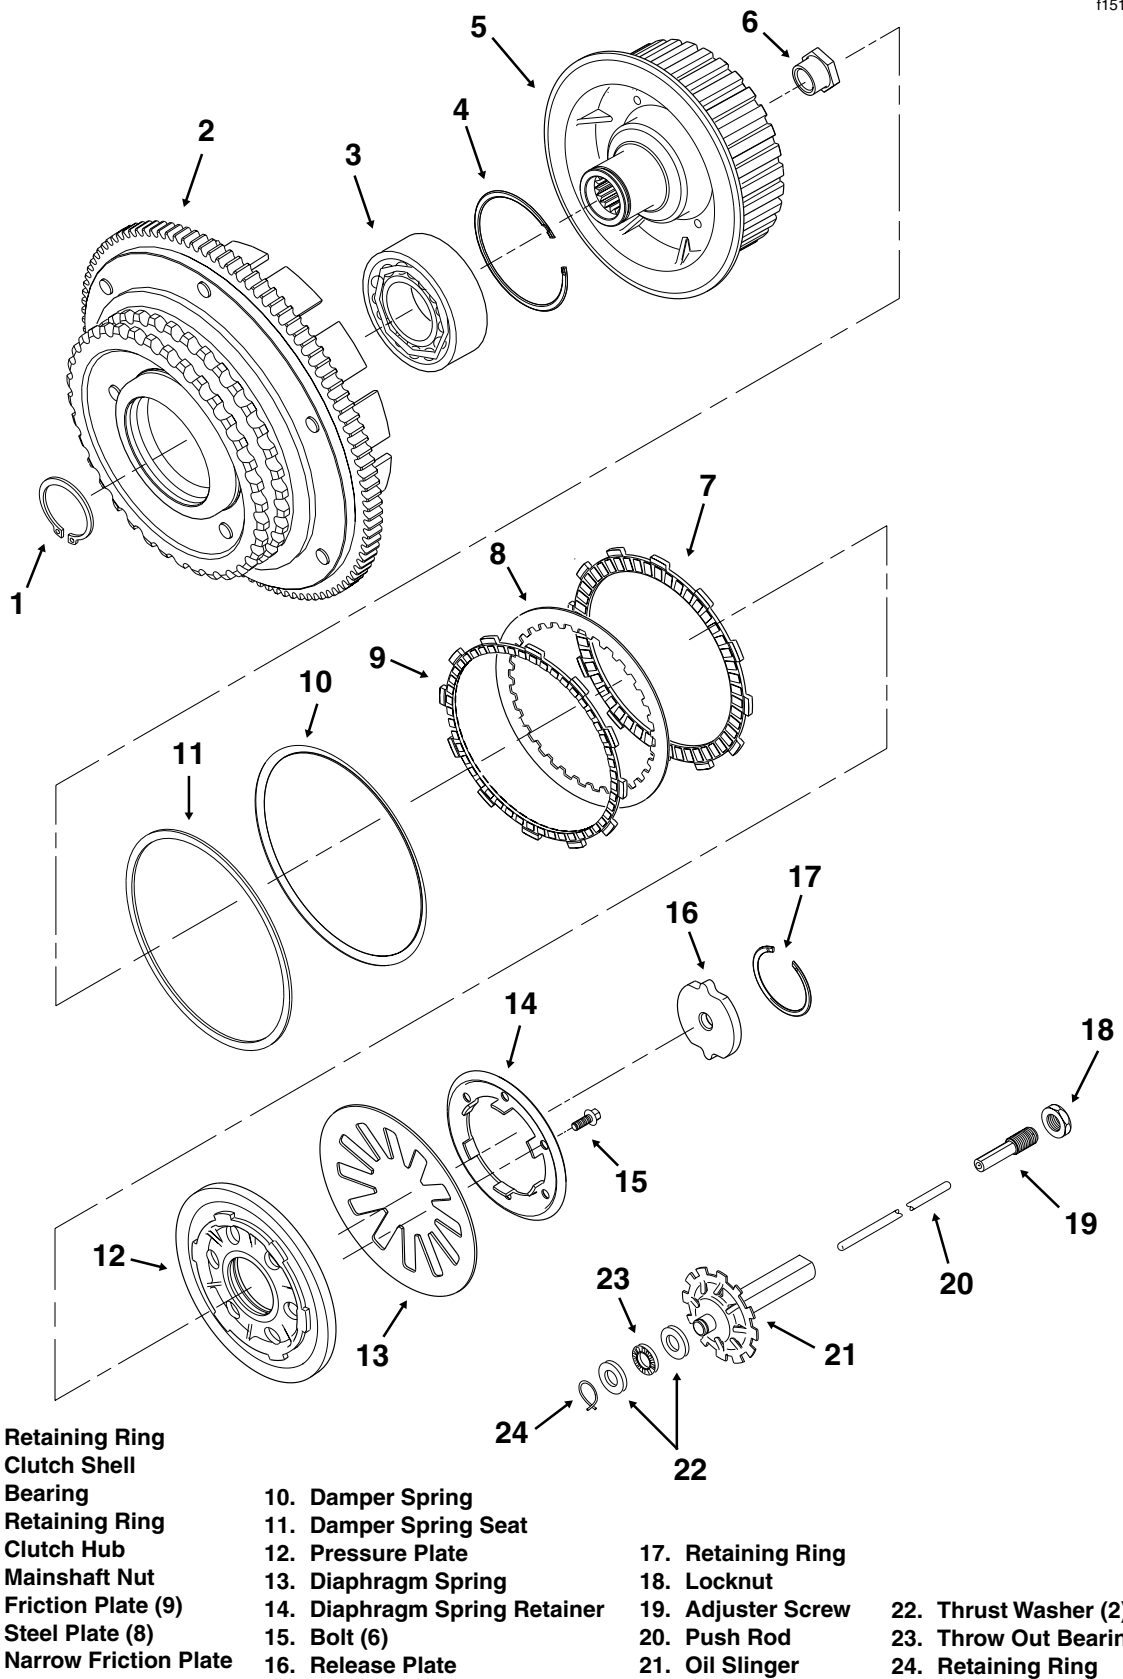

Figure 6-9. Clutch Assembly
2. Remove six bolts to release diaphragm spring retainer from clutch hub. See Figure 6-9.
4. See Figure 6-9. Holding the clutch hub, rotate the clutch shell to check bearing for smoothness. Replace the bearing if it runs rough or binds.